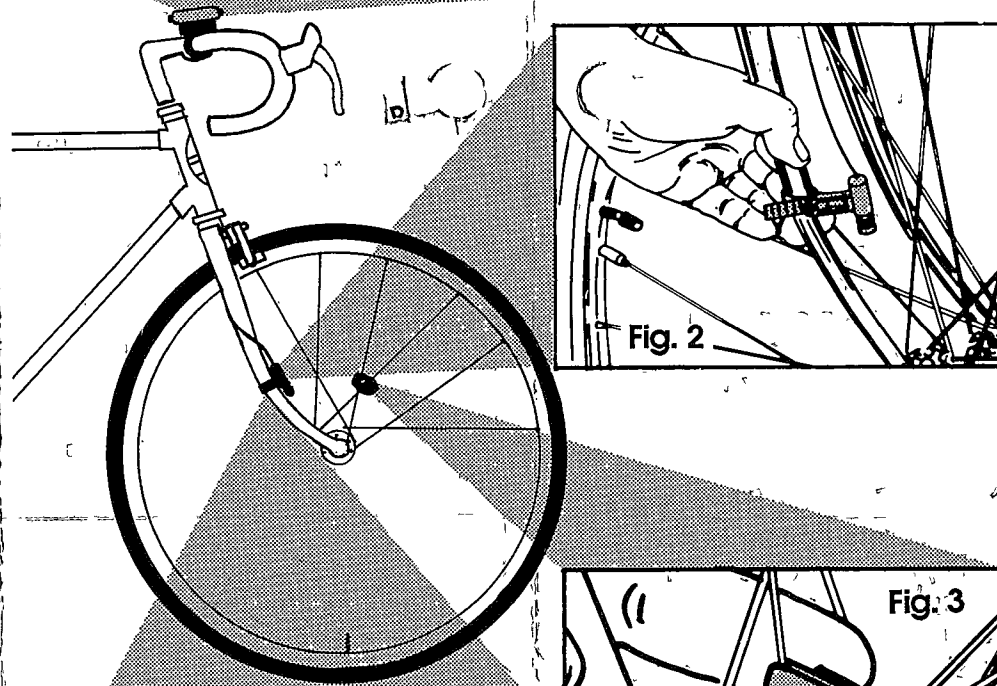

Fig. 2
2. Position speed sensor on right hand fork leg (as if you were sitting on bicycle). Wrap the notched strap around the fork blade and insert it into the slot in the clamp (Fig. 2).